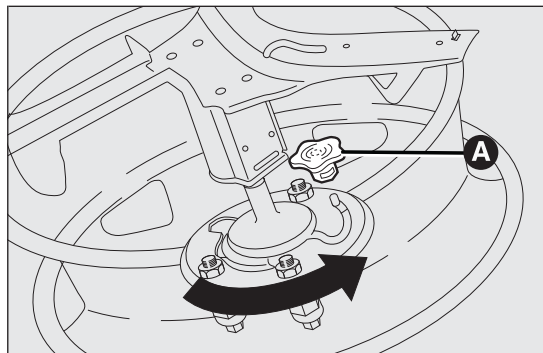

fig. 125
- ❑ Fix the toothed support on the wheel by means of two screws (insert in the outer wheel support). Refit the restraining metallic wire in the seat and refit the protective cap A fig. 125;